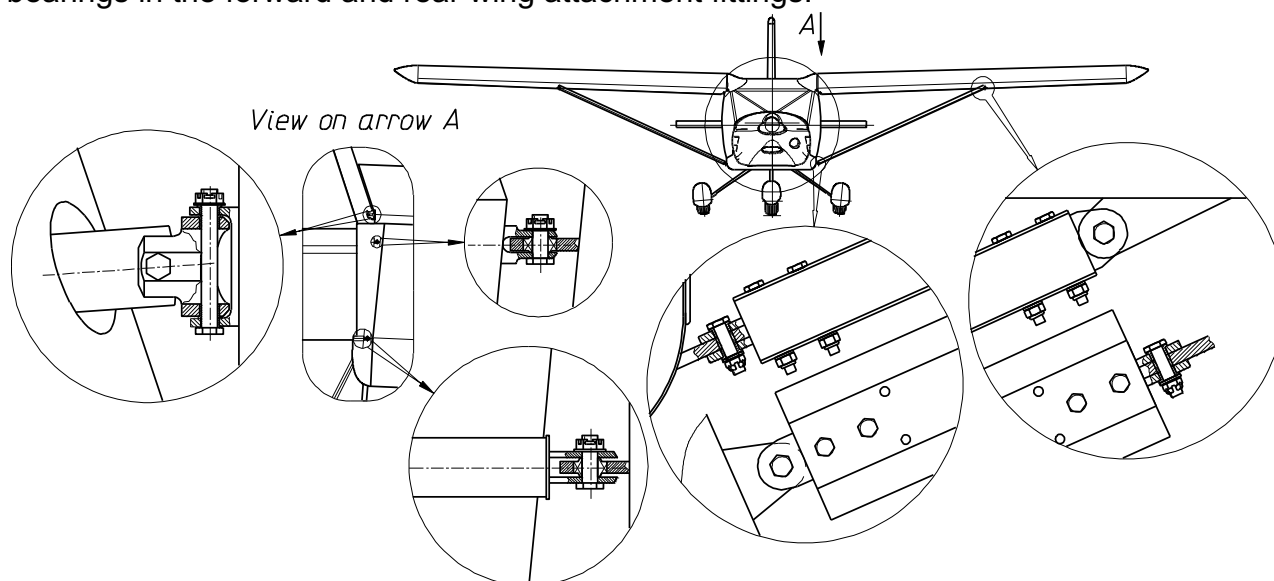

Fig. 21 Wing removal
Left and right wings shall be removed in turn (in any order) according to the following sequence (see **Fig. 21**):
4. Disconnect the full and static pressure lines at their joints (left wing, see **Fig. 21**).